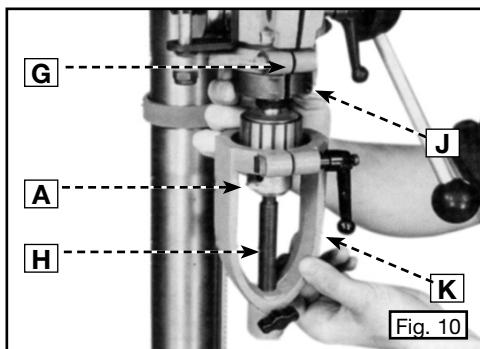
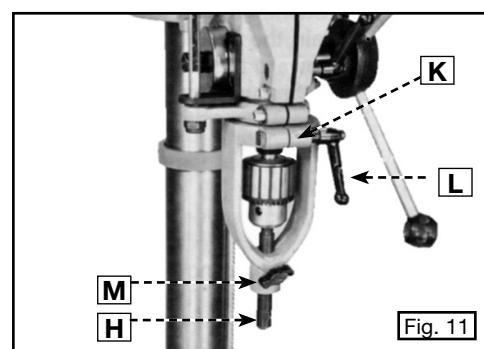

Fig. 10
Fig. 11
1. Install and lock the smaller diameter end of the alignment pin (H) in the spindle (A) Fig. 10.
2. Install the largest inside diameter split-ring bushings (J) Fig. 10 around the quill and under the stop collar (G).
3. While holding the split-ring bushings (J) Fig. 10 in position on the quill, slide the chisel holder (K) over the alignment pin (H) and over the split-ring bushings (J).
IMPORTANT: Before tightening the locking lever (L) Fig. 11, align the slot in the split-ring bushings (J) Fig. 10 with the slot in the chisel holder (K) Fig. 11. Tighten the thumb screw (M) on the alignment pin (H). Tighten the locking lever (L) around the split ring bushings.
4. After the chisel holder (K) Fig. 11 is installed on the machine, loosen the thumb screw (M) and remove the alignment pin (H) from the spindle.